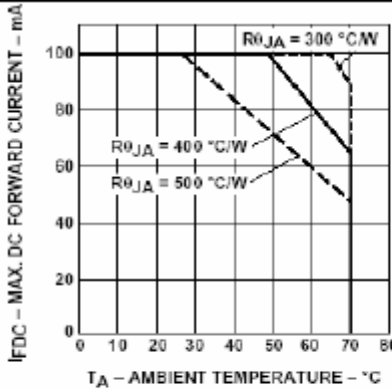

Figure 4. Maximum DC Forward Current vs. Ambient Temperature. Derated Based on  $T_{JMAX} = 110^{\circ}C$ .
1. Derate linearly as show in Figure 4.